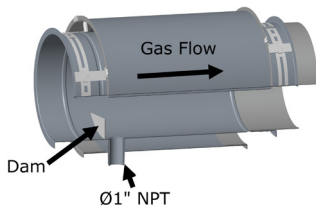

Figure 73 - Horizontal Length (HDL)
The Horizontal Drain Length (HDL) has the same function and dimensions as the Drain Length (DL), but used on horizontal run and has a dam just below the NPT Drain instead of a gutter. The dam directs the water through the drain. See Figure 73.